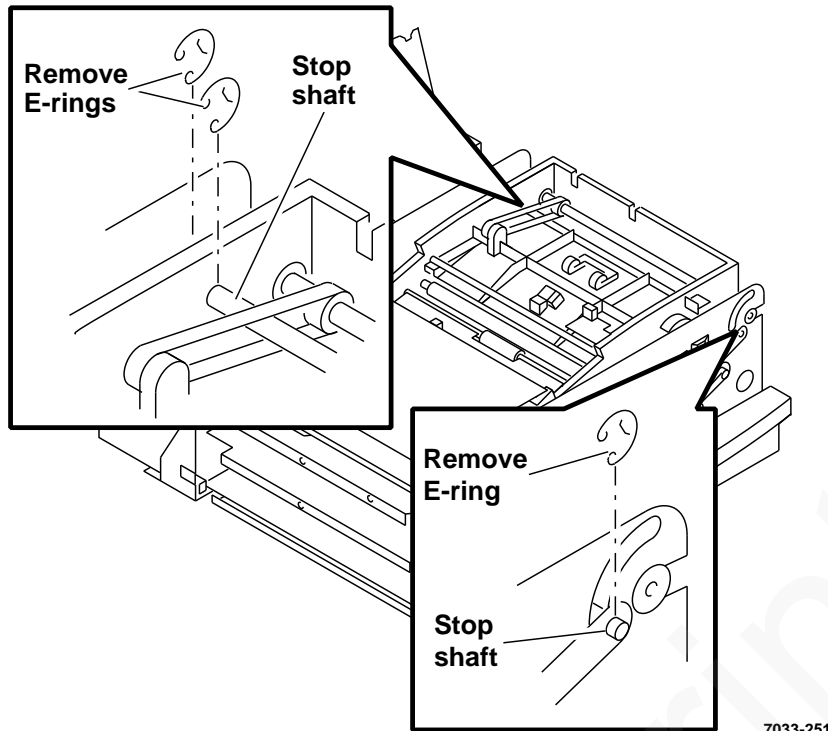

Figure 5. Stop shaft removal
- a. Remove E-ring from front of stop shaft, and remove linkage arm (Figure 5).
- b. Remove E-ring from rear inside end of stop shaft (Figure 5).
- c. Remove E-ring from rear outside end of stop shaft (Figure 5), and slide shaft out through the front of terminal